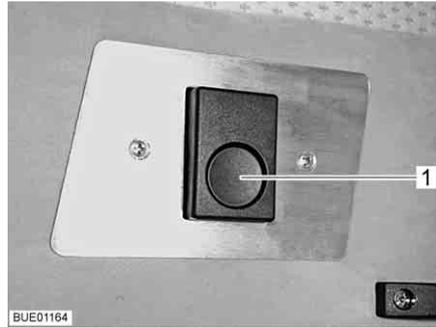

Fig. 74 Release
- Push the release knob (Fig. 74,1). The lock is released.